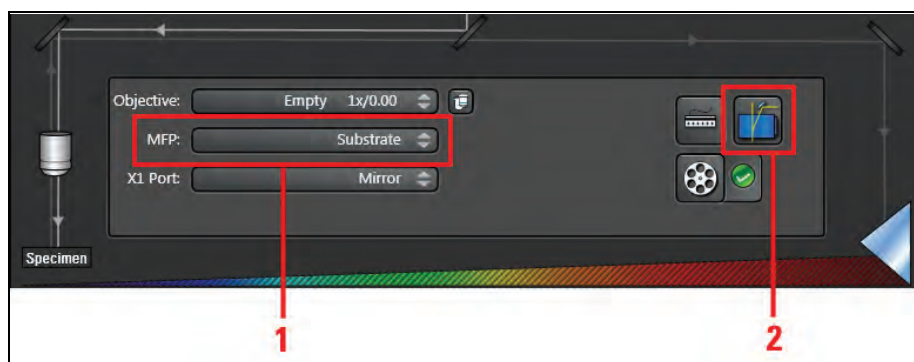

Figure 98: Beam Path Settings: MFP setting (1) and selection of AOBS (2)
3. On AOBs systems, make sure the acousto-optical beam splitter is in fluorescence mode. Now select the AOBs button to do this (Figure 98, item 2).
5. If the system has a multifunction port (**MFP**), it should be set to **Substrate** (Figure 98, item 1).